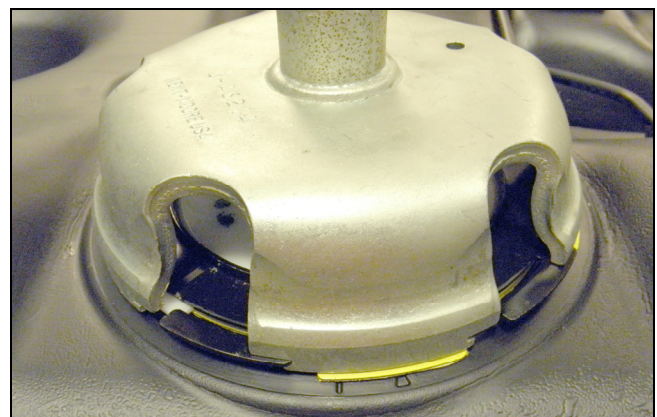

Figure 11
11. Reinstall fuel pump lock ring (Figure 11) with special tool #J-46214.